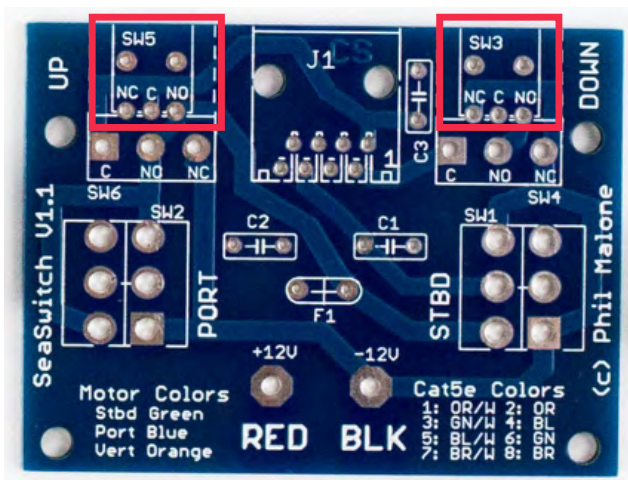

Figure 11
- ❑ Place the switches in the SW3 and SW5 locations on the component side of the PCB.. (Figure 11 & 12)